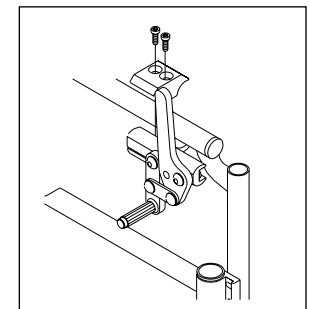
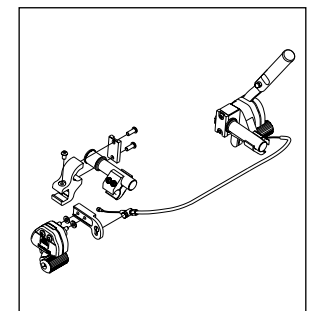

Figure 22
Figure 23
1. High-Mount Push-to-Lock or Pull-to-Lock (Fig. 22), One-Hand (Fig. 23) Wheel Locks Adjustment.